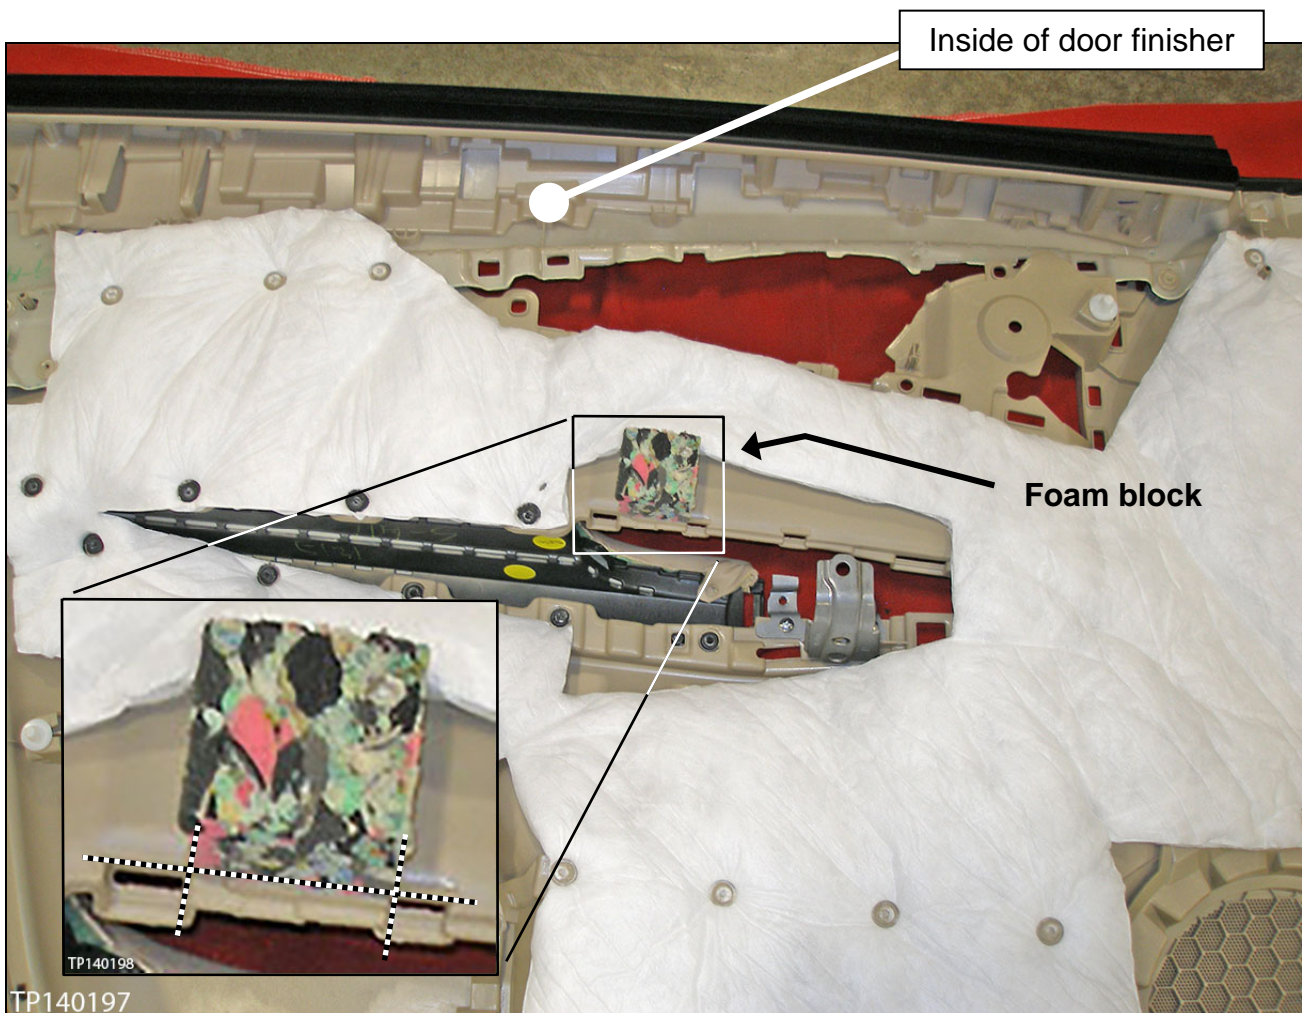

Figure 2
- b. Remove the adhesive backing, and then apply the foam block where shown in Figure 2.